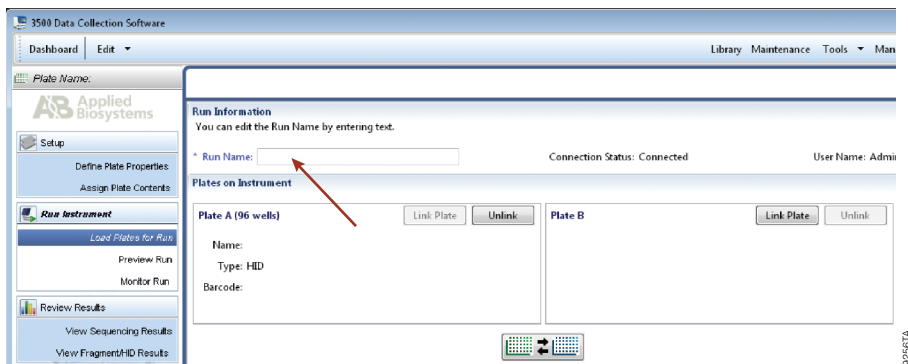

Figure 10. Assigning a run name.
13. In the 'Run Information' window (Figure 10), assign a Run Name. Select **Start Run** (not shown).